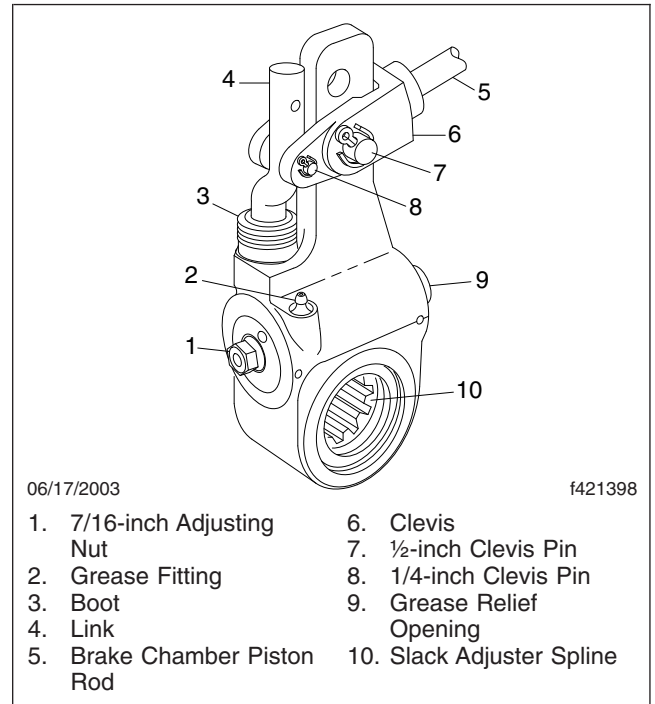

Fig. 11.8, Automatic Slack Adjuster (typical)
- 16.2 Inspect the slack adjuster boot for cuts or tears. If the boot is damaged, have it replaced. See **Fig. 11.8**.